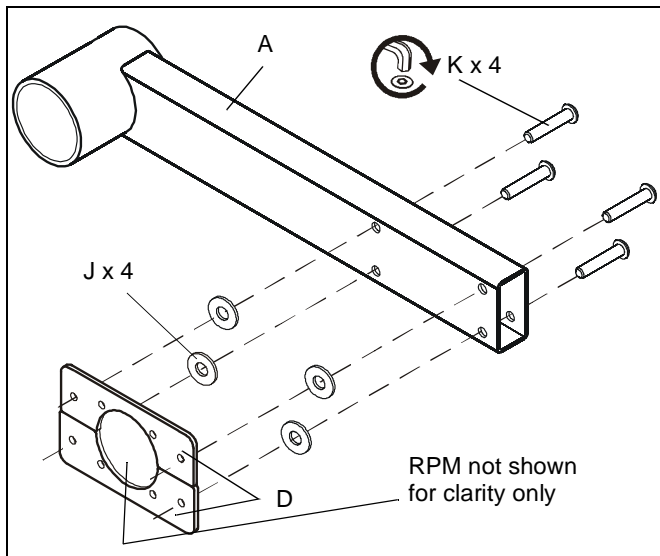

Figure 4
6. Insert four 1/4"-20x1-1/4" (K) button head cap screws from the top of the projector arm. (See Figure 4)